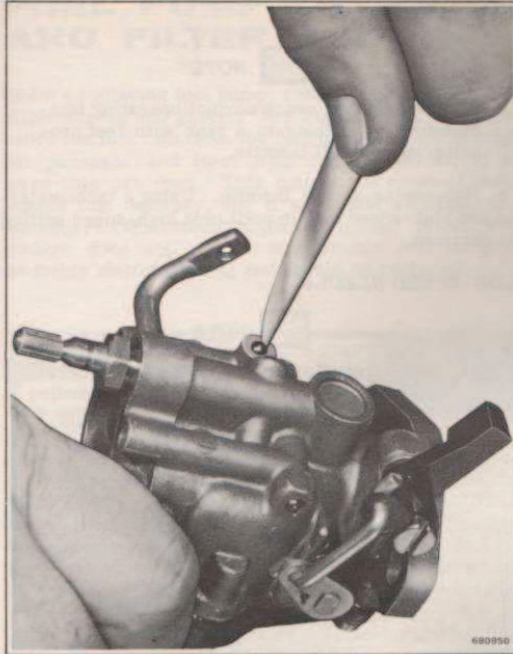

Figure 3-13. Removing Lead Shot
b. If leakage still exists, remove the lead shot with an appropriate sharp tool. See Figure 3-13.